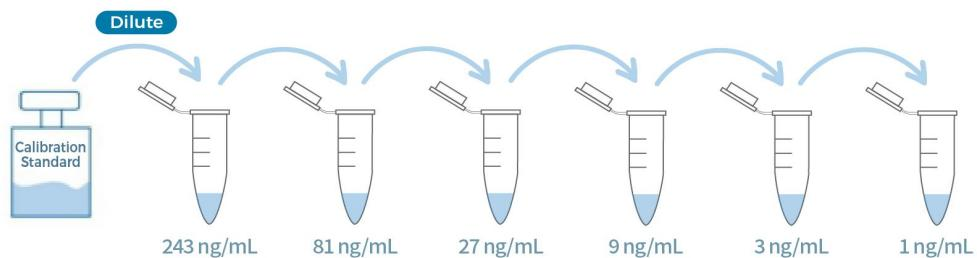

Figure 3. Graphic scheme of *E.coli* HCP-E Calibration Standard Solutions
(3) Preparation of Calibration Standard Solutions
- Prepare *E.coli* HCP-E Calibration Standard Solutions as shown in Fig 3 and Table 3.